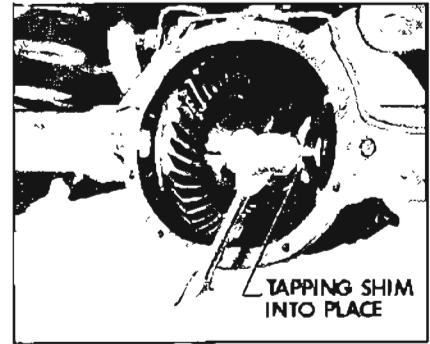

Figure 6-31—Installing Differential Adjusting Shim
2. Place differential case and bearing assembly in position in carrier. If new side bearings were installed, use original adjusting shims; if same bearings are to be reused, select new right and left adjusting shims each .002" thicker than original shim. Slip left shim in position at left bearing, then drive right shim carefully into position using a soft hammer. See Figure 6-31.